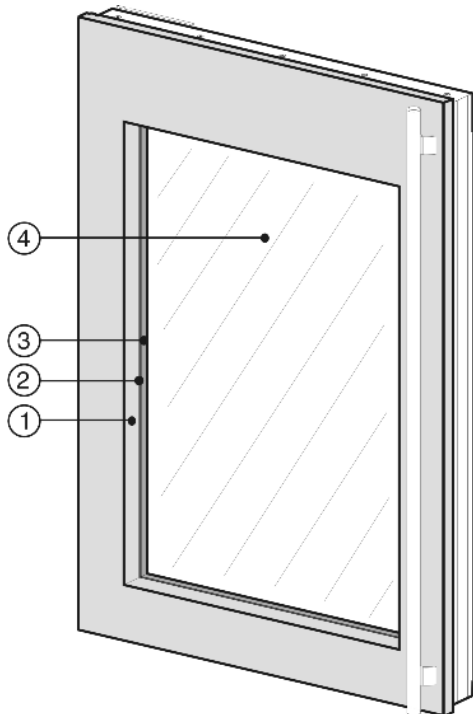
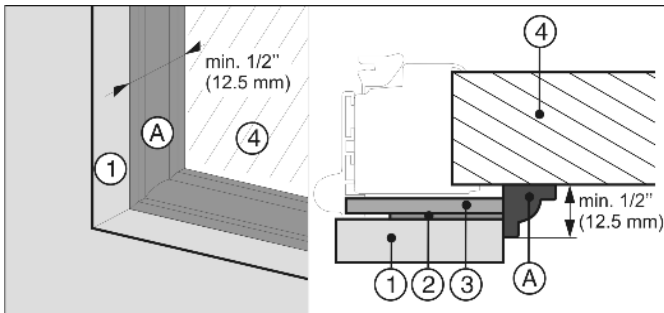

Fig. 19
Fig. 20
- (1) Overlay panel
(2) Spacer panel
(3) Backer panel
(4) Glass area
The edges of the panels Fig. 19 (1,2,3) are visible at the transition to the glass window Fig. 19 (4). It can be covered with a decorative molding Fig. 20 (A) for esthetic reasons.